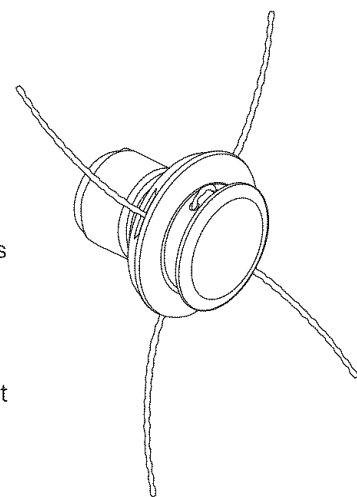

Fig. 14
6. Correctly installed, the four lines will all be the same length (Fig. 14).